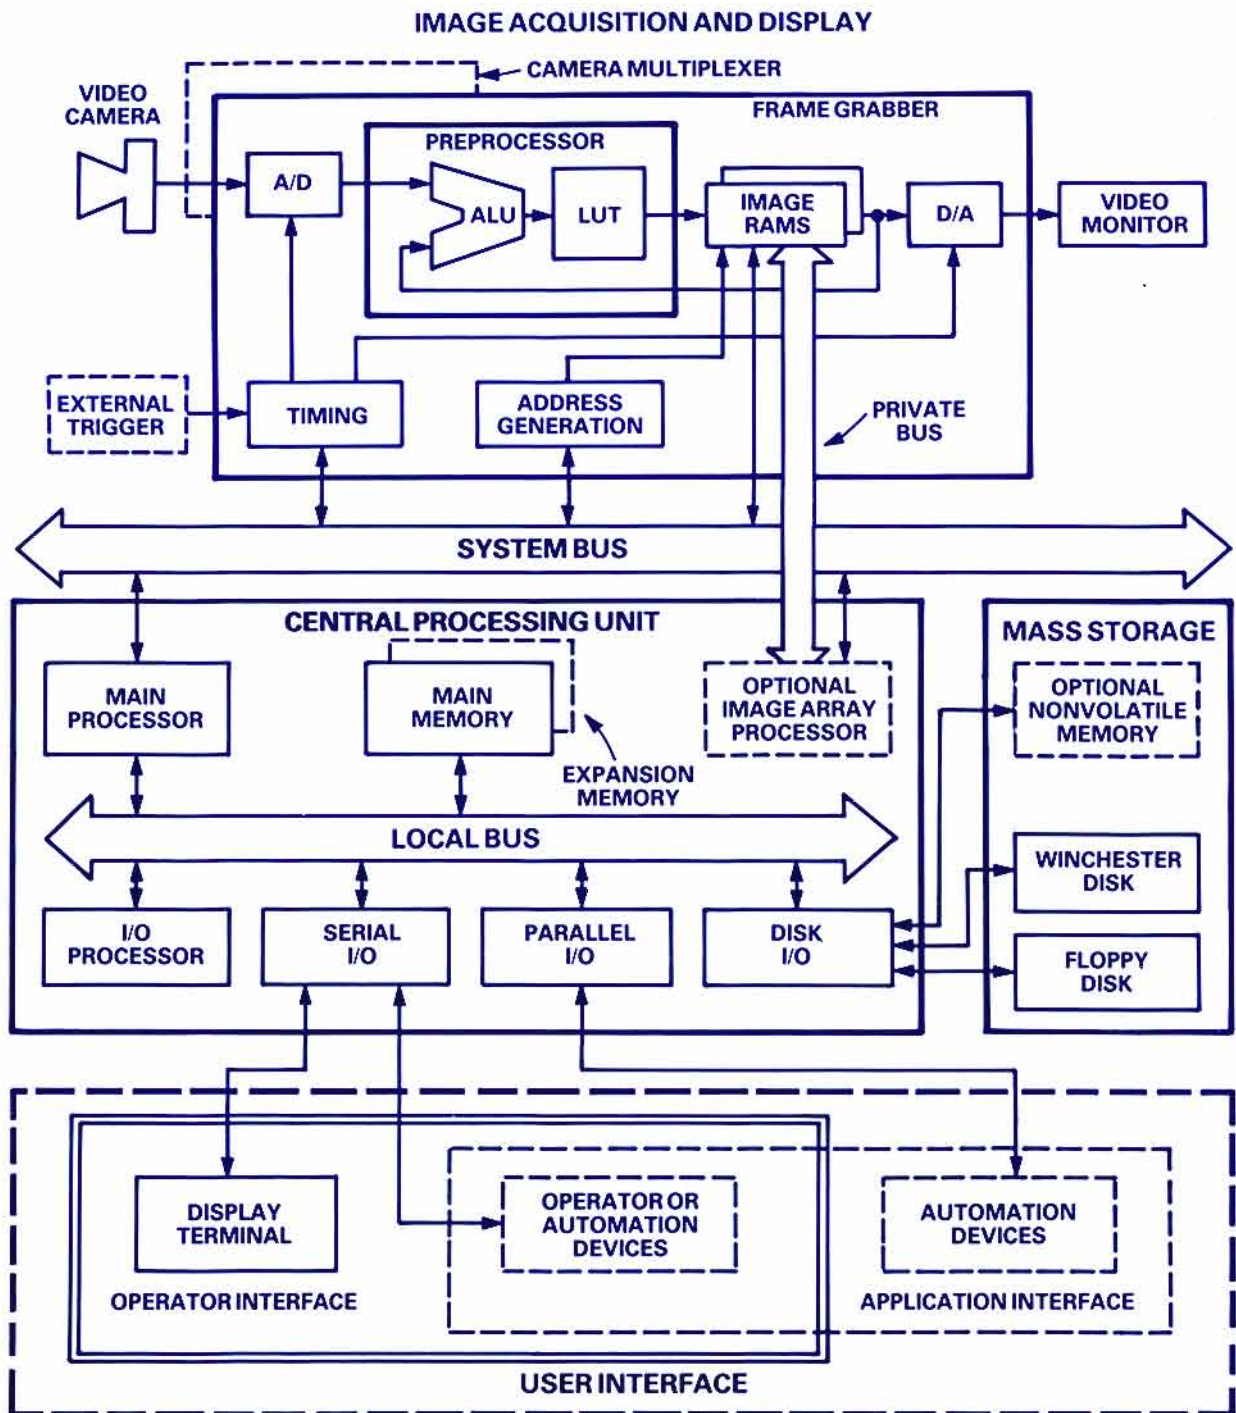

Figure 1. IVS-100 simplified block diagram. Optional components are indicated by dashed lines.
Figure 1. This series of photographs show clearly the advantages of high intensity resolution. With 64 levels of gray, part boundaries are distinguishable from background; and fine features, such as the shadow cast by the post in the lower
The IVS-100 hardware can be classified in four major functional areas: 1) image acquisition and display; 2) the central processing unit; 3) mass storage facilities; and 4) user interface hardware. These functional units, and their various sub-units, are illustrated in the block diagram of Figure 1.
In the IVS-100 system diagram of Figure 1, the topmost block denotes the IMAGE ACQUISITION AND DISPLAY module. Besides the video camera and video monitor, it includes a printed circuit (PC) board in the IVS-100 master unit, known as the "frame grabber." The frame grabber's function is to acquire the image in digital form, to store the image in frame memory, and—when desired—to perform certain preprocessing operations involving newly acquired data. For multiple-camera installations, an optional camera multiplexer board is available.
The heart of the CENTRAL PROCESSING UNIT (CPU) is an 80286 microprocessor, supported by an 80287 numeric or math coprocessor, occupying the block labelled MAIN PROCESSOR in Figure 1. The 80287 is for the rapid execution of floating-point (i.e., real-number) operations. These state-of-the-art components are members of the Intel* 8086 family of 16-bit processors.
The three processors are located in the master unit on a single PC board. This CPU BOARD also contains the hardware needed for the various I/O interfaces (serial I/O, parallel I/O, and disk I/O) indicated in Figure 1.
Another CPU option shown (dashed lines) in Figure 1 is the IMAGE ARRAY PROCESSOR, a self-contained single-board discrete-component processor. It can be thought of as an auxiliary
Once the system is triggered, the video signal is sampled and passed through an 8-bit analog-to-digital converter (A/D in Figure 1), which digitizes the pixel light-intensity information into 256-level gray-scale data. The array of digital pixel data corresponding to the original video image can then be stored in the image buffers (512 × 512 × 8-bit RAMs) on the frame-grabber board; there the